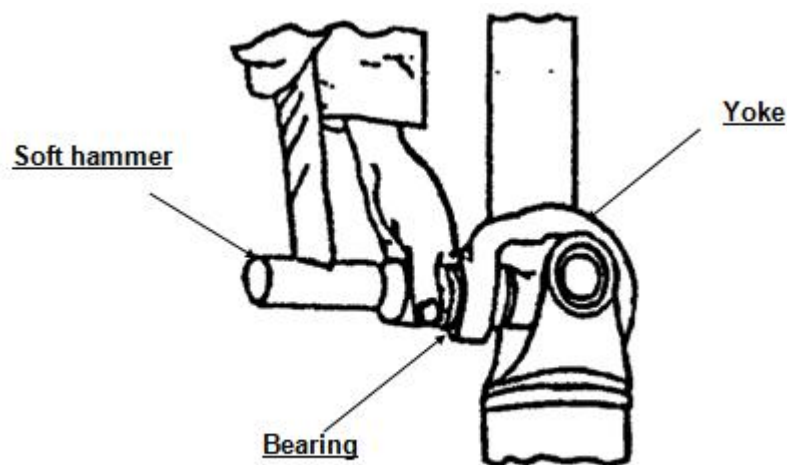

Fig. 13
- Place one bearing into the yoke bore by tapping it lightly with a soft hammer. Ensure that the bearing is square with the bore (Fig. 13).